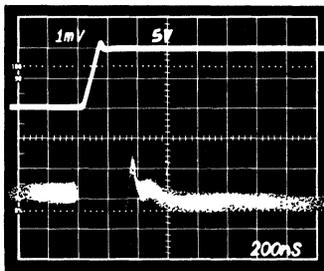
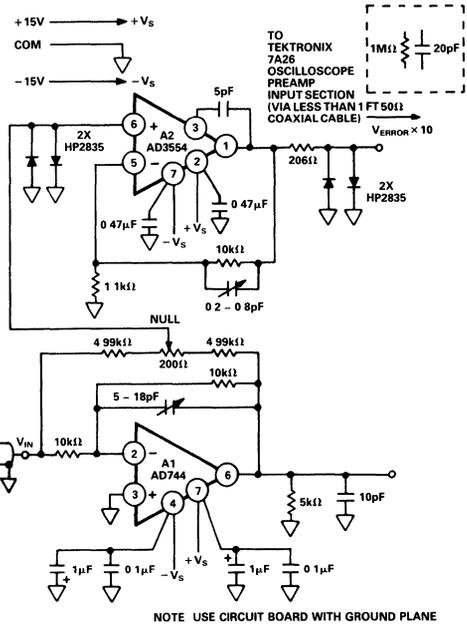

Figure 26. Settling Characteristics 0 to +10V Step
Figure 25. Settling Time Test Circuit
- Gain = -1, R_L = 2k, C_L = 10pF, refer to Figure 25.
The photos of Figures 26 and 27 show the dynamic response of the AD744 while operating in the settling time test circuit of Figure 25. The input of the settling time fixture is driven by a flat-top pulse generator. The error signal output from the false summing node of A1, the AD744 under test, is clamped, amplified by op amp A2 and then clamped again.